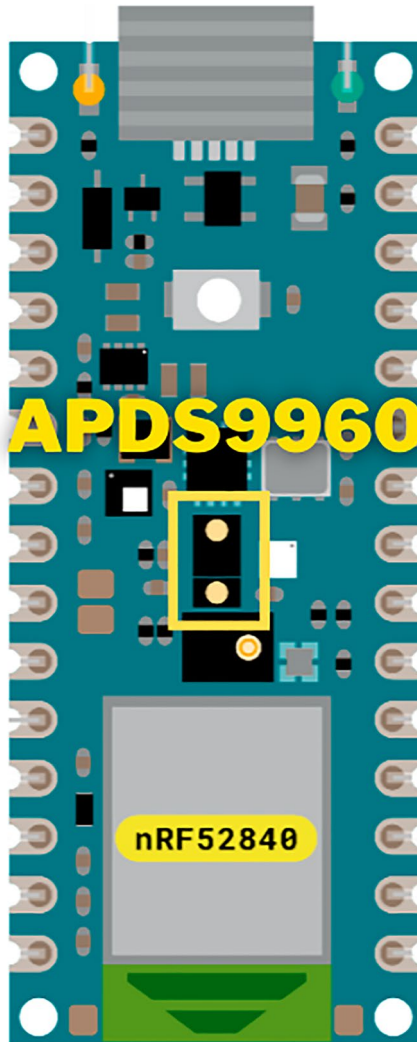

Figure 2-2. *Arduino Nano BLE Sense*
- Arduino Nano BLE Sense, with built-in APDS9960 sensor (see Figure 2-2)